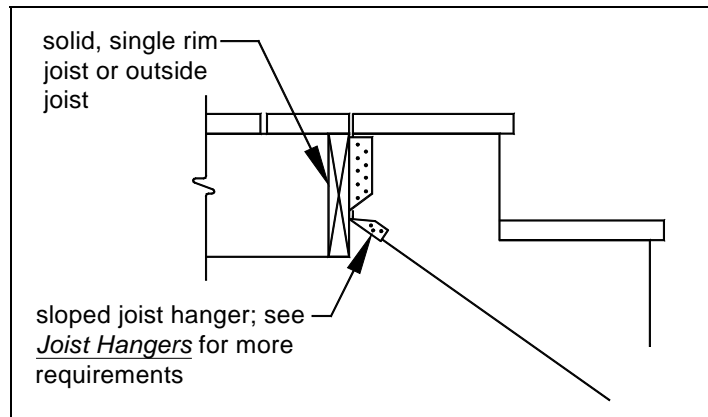

FIGURE 35: STAIR STRINGER ATTACHMENT DETAIL
- Attach stringers to the deck per FIGURE 35.